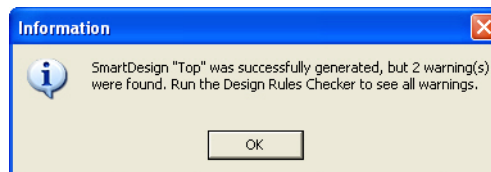

Figure 1-22 • Design Generated Successfully
25. From the **SmartDesign** menu choose **Generate Design**. Confirm that the design was generated successfully (Figure 1-22). Click OK to continue.